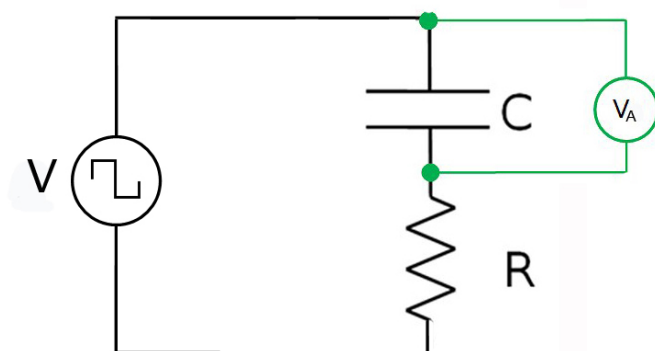

Figure 2. RC Circuit Diagram
1. Construct the circuit shown in Figure 2. The voltage source is Signal Generator #1 on the 850 Universal Interface. $C = 3900$ pF (capacitor C1 on the UI-5210 board) and $R = 47$ k Ω (resistor R1 on the UI-5210 board).